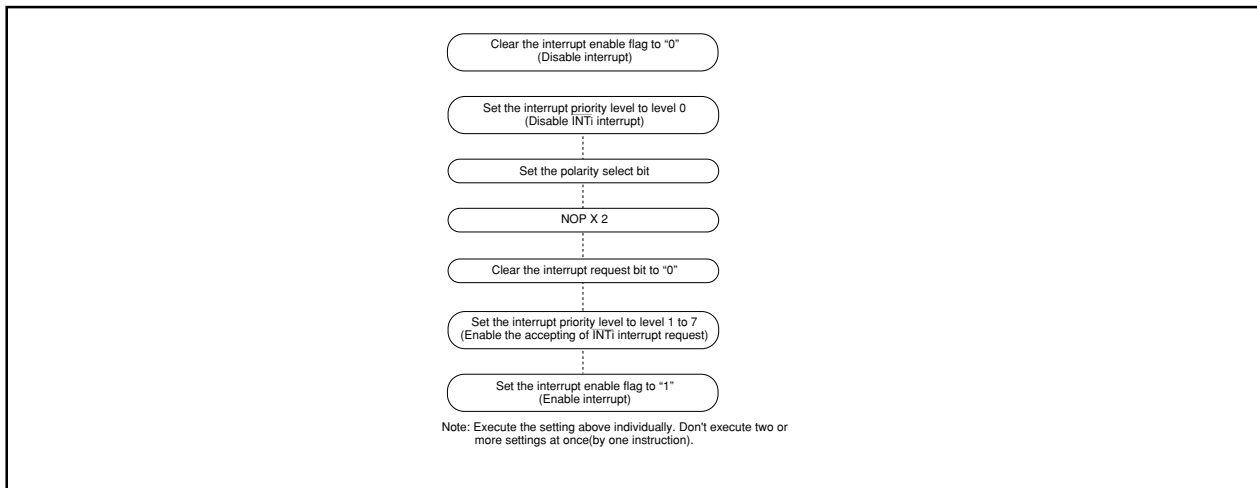

Figure 1.11.13. Switching condition of INT interrupt request
- When the polarity of the  $\overline{\text{INT0}}$  to  $\overline{\text{INT5}}$  pins is changed or the interrupt request cause of the software interrupt numbers 8 to 9 is changed, the interrupt request bit is sometimes set to "1". After these changes were made, set the interrupt request bit to "0". Figure 1.11.13 shows the procedure for changing the  $\overline{\text{INT}}$  interrupt generate factor.